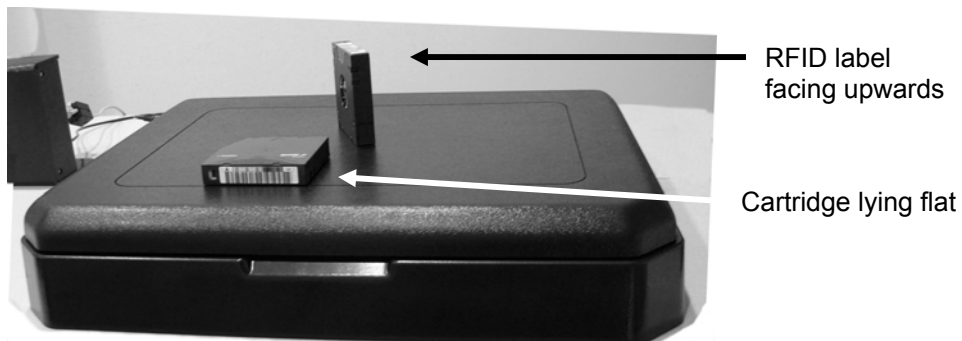

Figure 4
- If the cartridge is upright on the pad with the RFID label facing upwards, put the cartridge in the middle of the molded case outline. See Figure 4.